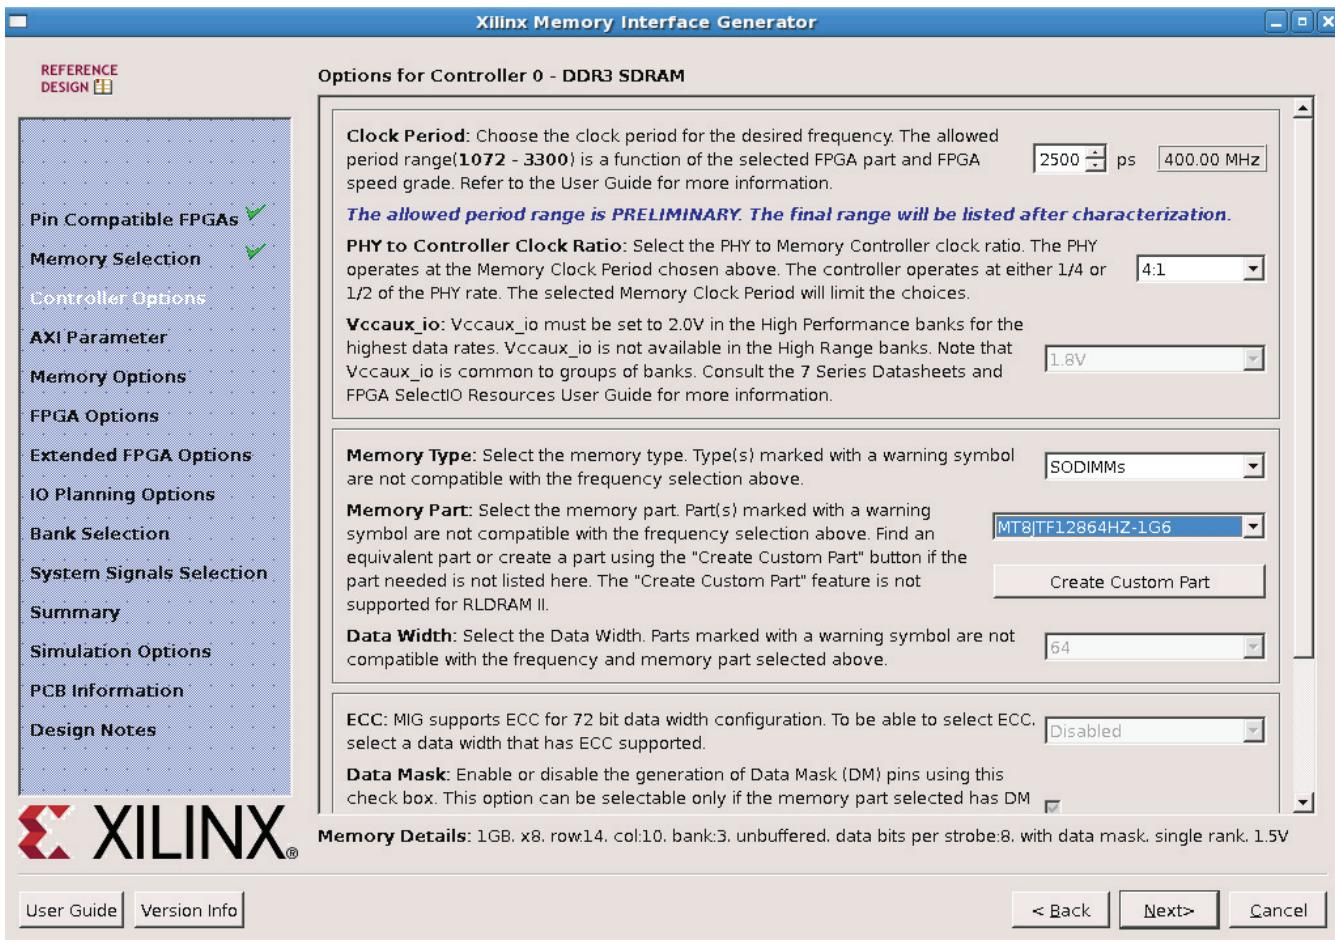

Figure 33: MIG Controller Options Page
20. For Controller Options (Figure 33), set the clock frequency to **2500 ps** for a 400 MHz memory clock, which is a clock frequency supported for the device and speed grade of the FPGA on the KC705 board. Set the memory information to match the KC705 board:
21. Scroll down the page as needed to ensure that the Data Mask option is checked (default) and Ordering is set to **Normal** (default). Click **Next** (Figure 33).